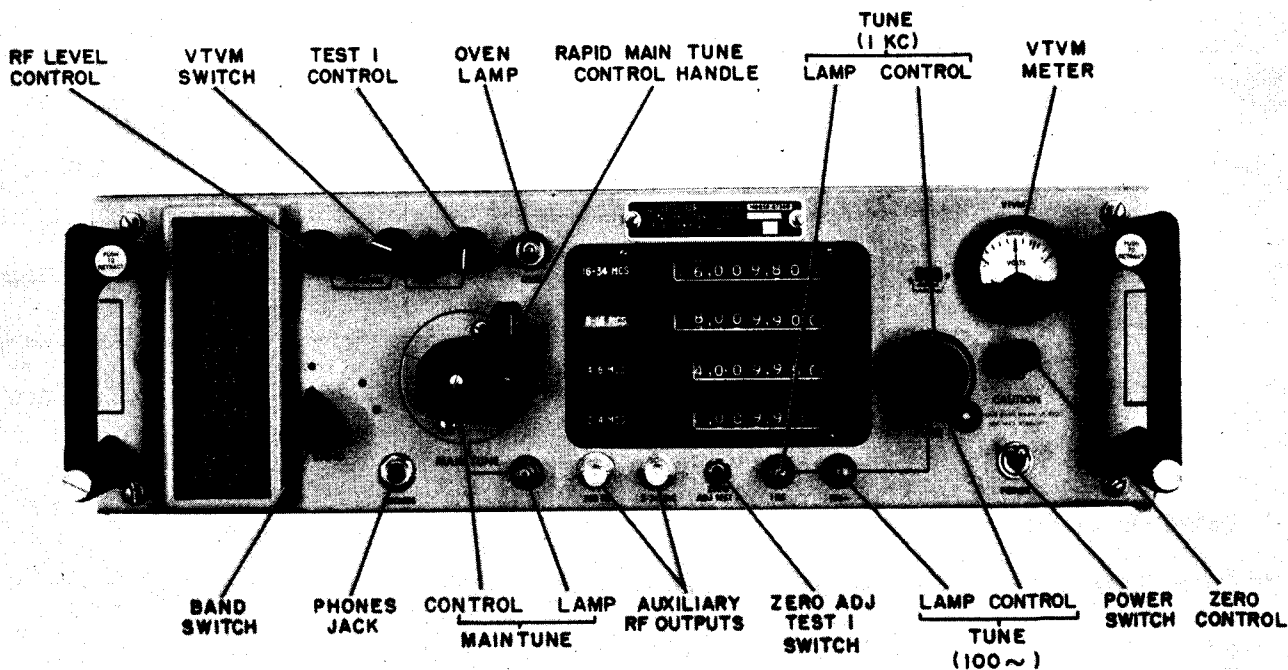

Figure 3-1. Front Panel Controls
a. DESCRIPTION OF CONTROLS. (See figure 3-1.) - Table 3-1 identifies and describes the function of each control needed to operate the synthesizer. All operating controls are located on the front panel of the synthesizer.